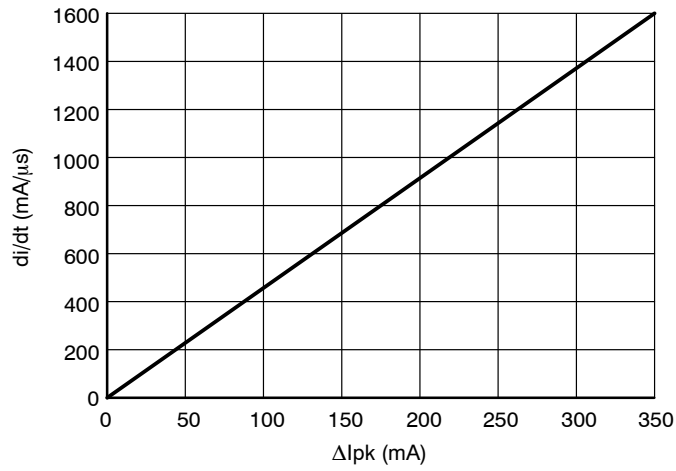

Figure 16. Power Switch Circuit di/dt vs. ΔI_p
9. Actual peak switch current is increased due to the propagation delay time and the di/dt (see Figure 16).
The current limit propagation delay time is typically 220 ns. This time is measured from when an overcurrent appears at the Power Switch Circuit drain, to the beginning of turn-off. Care must be taken during transformer saturation so that the maximum device current limit rating is not exceeded. To determine the peak Power Switch Circuit current at turn off, the effect of the propagation delay must be taken into account. To do this, use the appropriate Current Limit Threshold value from the electrical tables, and then add the ΔI_{pk} based on the di/dt from Figure 16. The di/dt of the circuit can be calculated by the following formula: